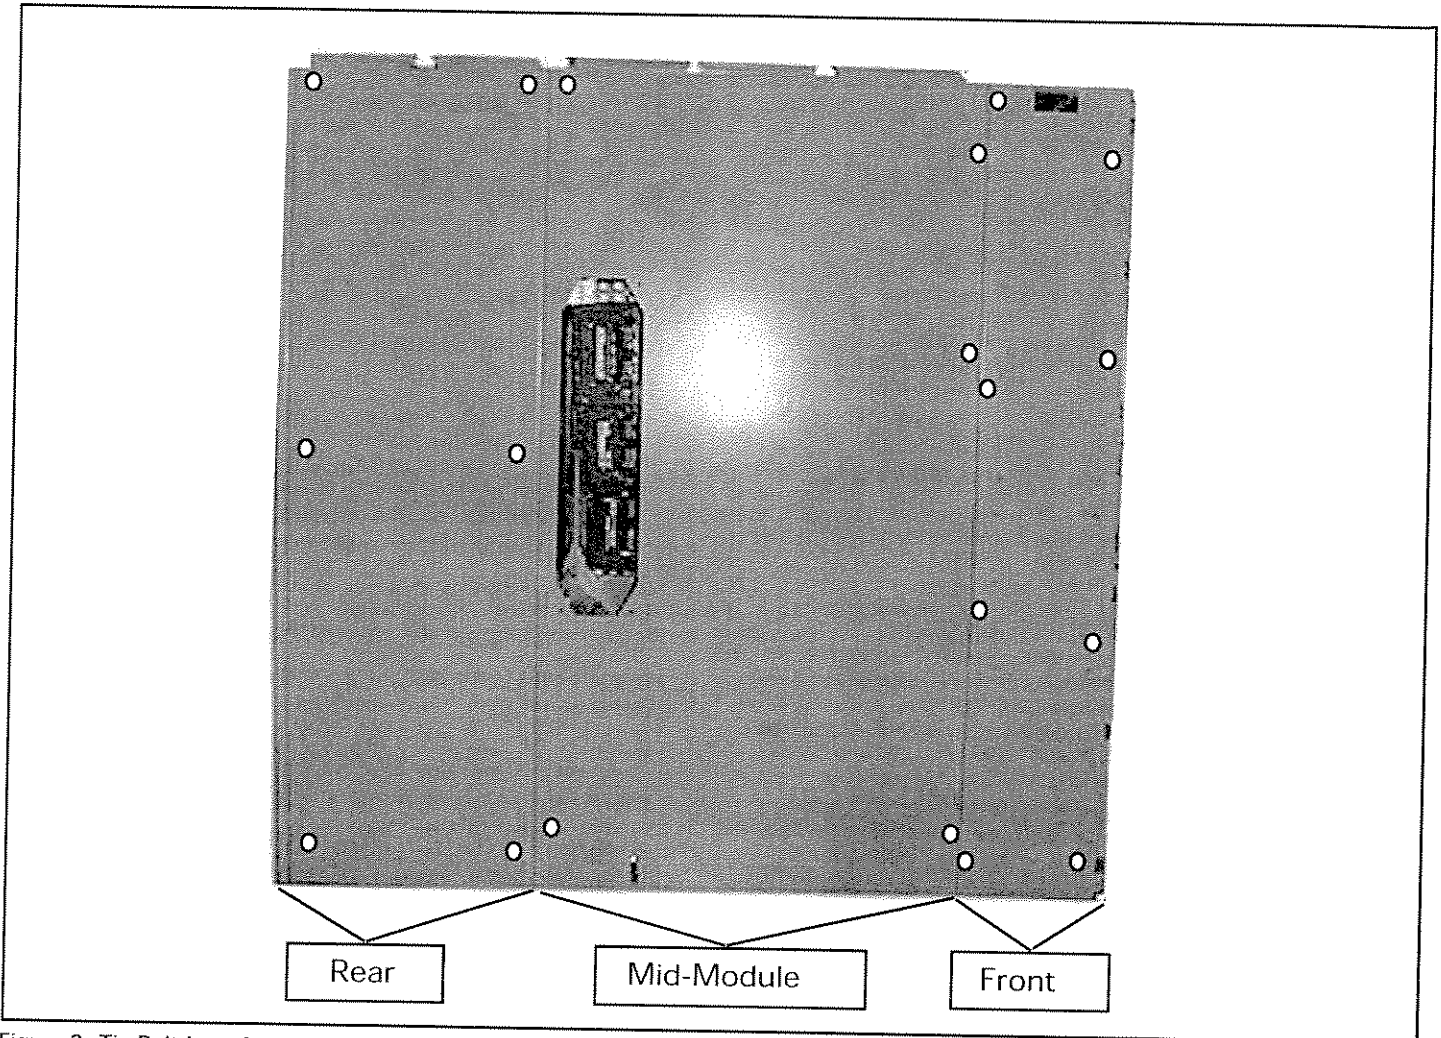

Figure 3. Tie Bolt Locations.
- B. Open the rear doors on each end of the shipping section. Remove upper main bus barrier for 37 kA 2000A or 3000A breaker configurations and all 50 kA configurations to allow access to the mid-module tie-bolt holes. Install eight tie bolts in the locations shown in Figure 3. Six are located in the rear-module and two are at the back of the mid-module.
Refer to items 14 and 15 in this section for instructions on opening a breaker or auxiliary compartment door. Open the front doors on each end of the shipping section. Install 11 tie bolts in the locations as shown in Figure 3. Three are located at the front of the mid-module and eight are located in the front-module.